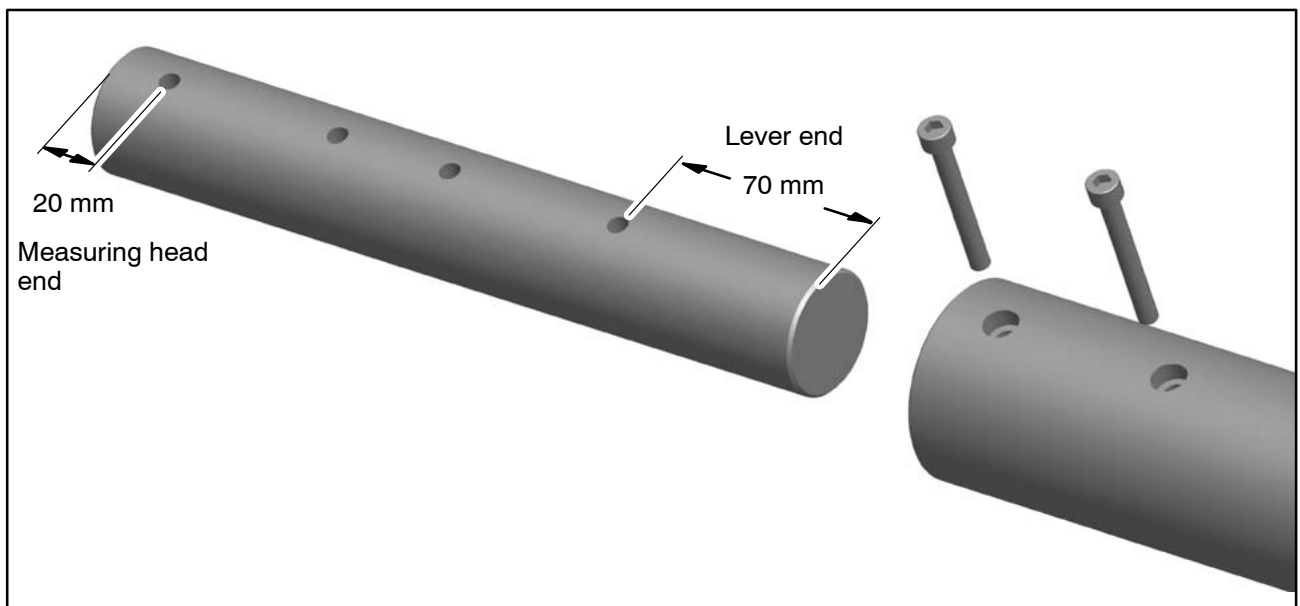

Fig. 4.14: Detailed view of end orientation on the connection bolt
- First attach the connection bolt of the lever with two of the supplied hexagon-socket screws (a./f. 5) in the measuring head. Make sure you get the right end, as shown in Fig. 4.14.